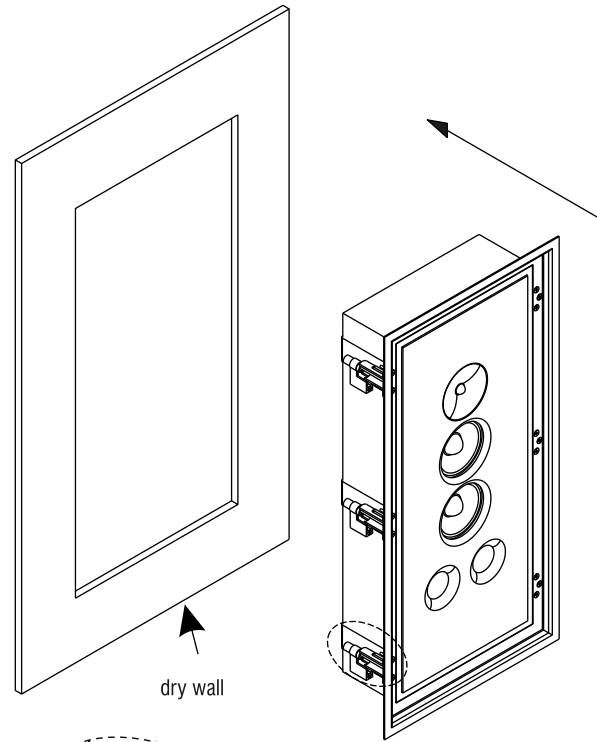

Fig 3
• fig 3 •
- Turn the dog-ears so that they are vertical. Hold the metal frame and insert the cabinet inside the cut-out on the dry-wall. Please see fig. 3 below.